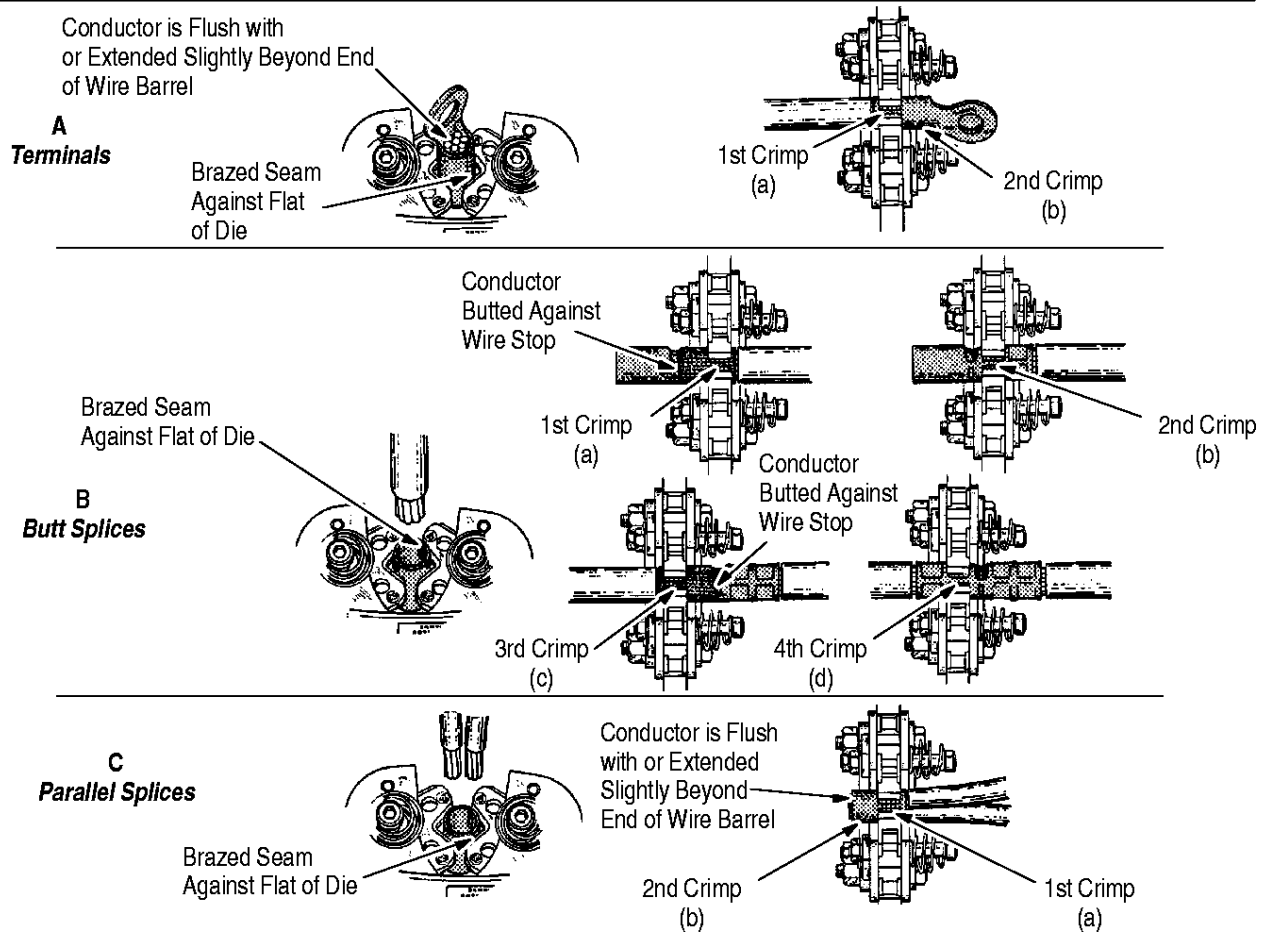

Figure 4
3.4. Performing a Dual Crimp on SOLISTRAND Terminals with Wire Size 2 and 1/0 (Figure 4)
For best results, position the brazed seam of the terminal against one of the "flats" of the dies, as shown in Figure 4. Make sure that the crimps do not overlap or go off either end of the wire barrel. Make sure that the wire size being used, the wire size stamped on the terminal, and the wire size embossed on the dies all correspond.
1. Position the end of the terminal or splice wire barrel in the dies as shown in Figure 4.
3.5. Performing a Dual Crimp on SOLISTRAND Butt Splices with Wire Size 2 and 1/0 (Figure 4)
5. Move the splice into position for the second crimp, as shown in Figure 4.
B. Third and Fourth Crimps (Figure 4)
3.6. Performing a Dual Crimp on SOLISTRAND Parallel Splices with Wire Size 2 and 1/0 (Figure 4)**NOTE**